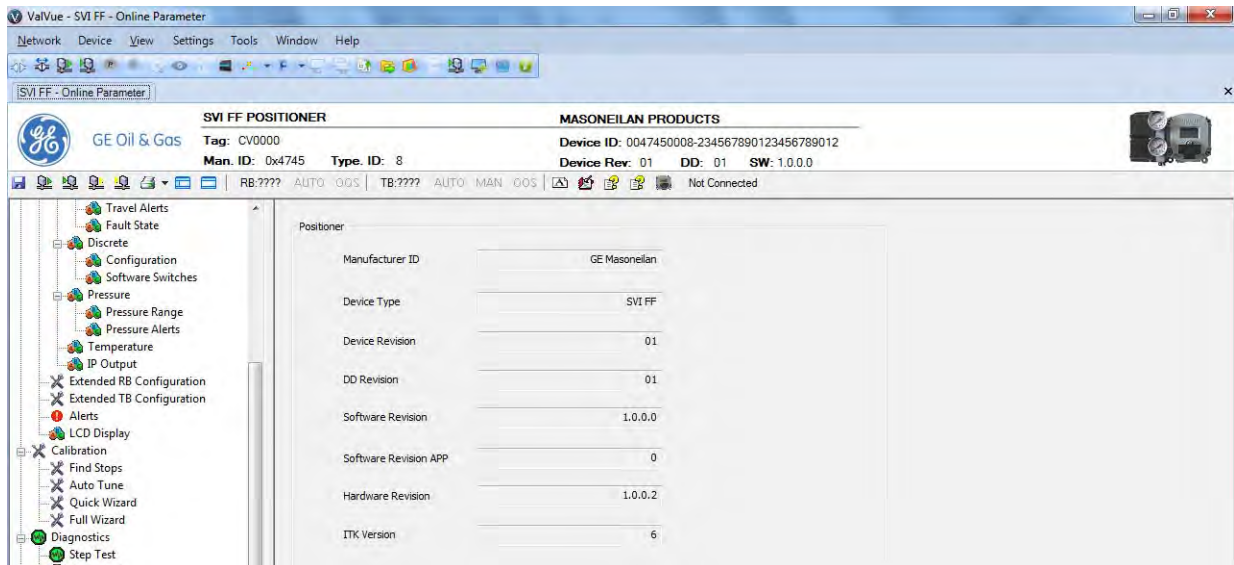

Figure 45 Positioner Tab
- SVI FF DTM on the *Positioner* tab. The firmware revision is *Software Revision* (Figure 45). Where the first digit, here *1*, represents the *DD Revision*.